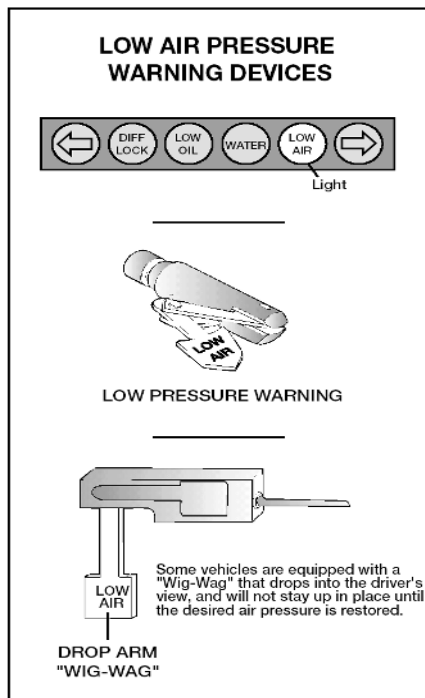

Figure 5.5
**Test Low Pressure Warning Signal.** Shut the engine off when you have enough air pressure so that the low pressure warning signal is not on. Turn the electrical power on and step on and off the brake pedal to reduce air tank pressure. The low air pressure warning signal must come on before the pressure drops to less than 55 psi in the air tank (or tank with the lowest air pressure, in dual air systems). See Figure 5.5.